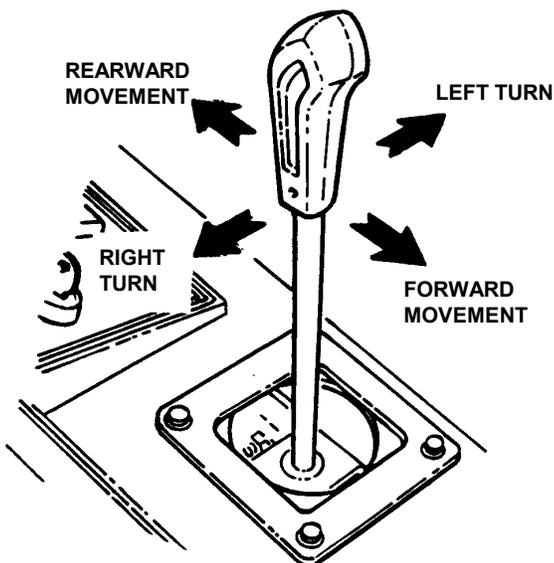

FIGURE 2.9
**ZERO RADIUS TURN-** Move control diagonally from neutral in desired direction. See Figure 2.9.